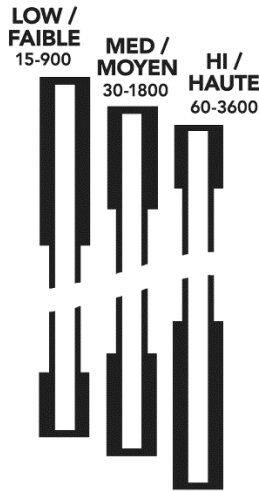

Figure 8-8
- There should be sufficient slack in belt to reposition it to the other steps on the sheaves. The label on the access door shows the required belt position. A similar graphic is shown in Figure 8-8.